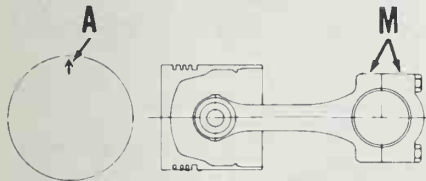

Fig. K1-25 - Assemble rod, cap and piston so marks (M) on rod and cap are on same side as piston arrow (A). Install in engine so marks (M) and arrow (A) are up.
When assembling piston and rod, arrow on original equipment piston crown should be on same side as rod and cap alignment marks as shown in Fig. K1-25. Install piston and rod in engine so piston arrow (A) points towards engine top. Replacement piston does not have arrow on crown and may be installed in either direction. Install rod cap so marks (M) on rod and cap are aligned and tighten rod screws to 29.4-34.3 N·m on EA400-N, EA400-NB, EA450-N and EA450-NB, or to 49.0-53.9 N·m on all other models.